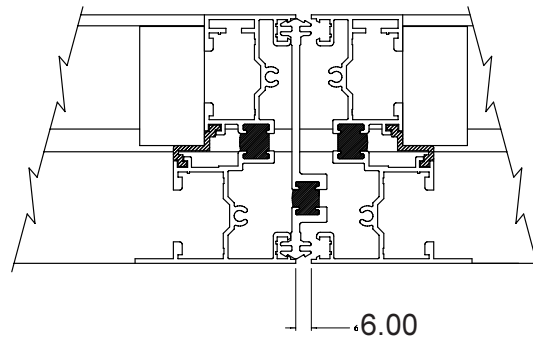

Fig.37
8.1 Coupling Sliders together (Fig.37)